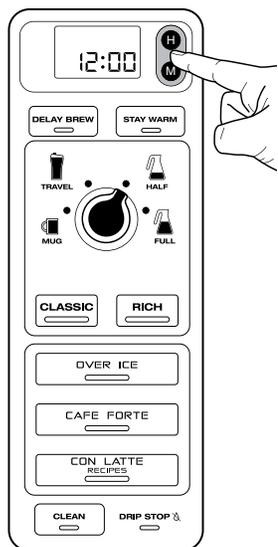

Fig. 1
- 2 Press the H (hour) or M (minute) button until you reach the current time. **(Fig. 1)**